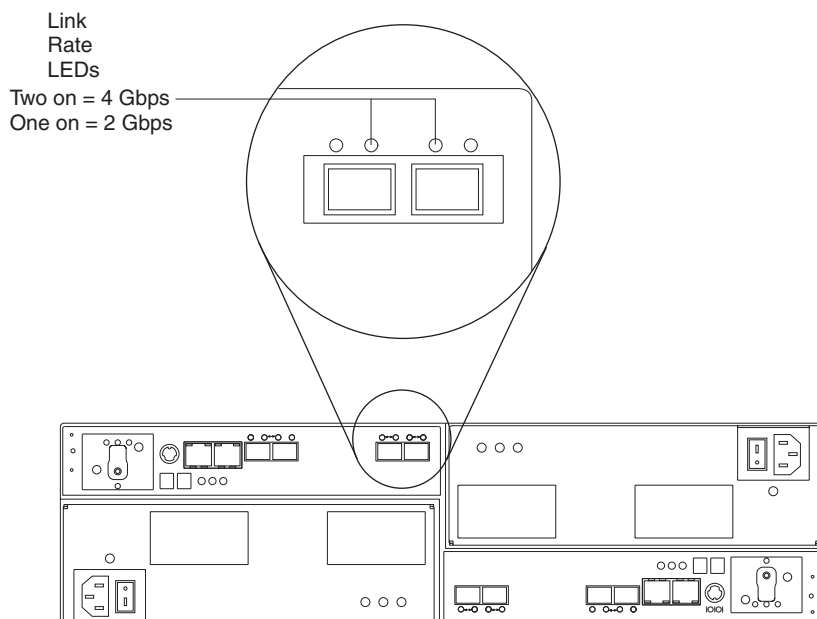

Figure 79. Link rate LEDs
2. Locate the link rate indicator LEDs. Figure 79 on page 134 shows the location of the link rate indicator lights on the back of the storage subsystem.
4. Locate the link rate switch. Figure 79 shows the location of the link rate indicator light on the front of the command module.